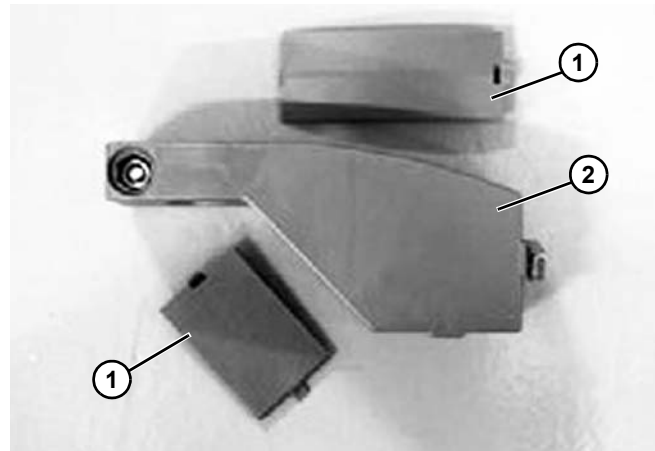

Figure 99
1. Open the upper and lower caps (**Figure 99, item 1**) on FGRB - 40 guide rail bracket (**Figure 99, item 2**), and install T-bolt.